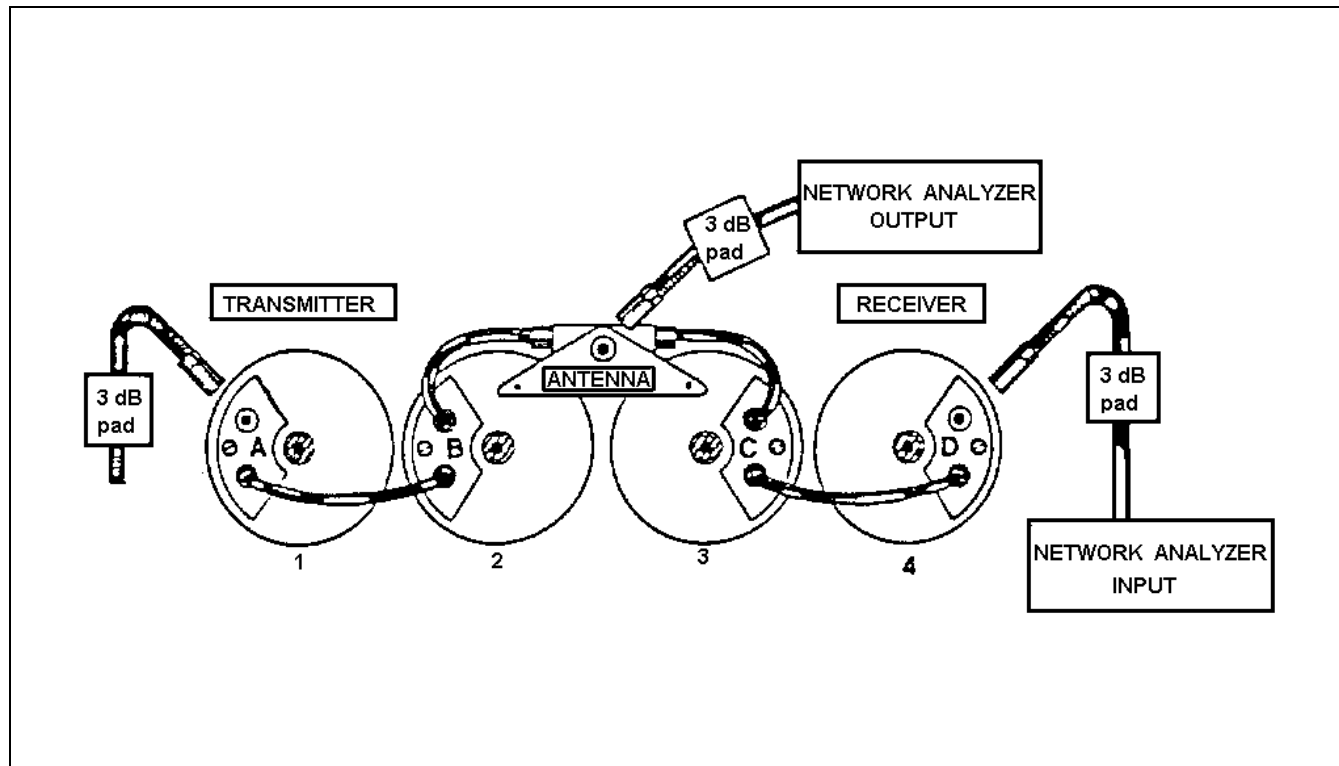

Figure 3
- Leave the output of the network analyzer (or tracking generator) connected to the antenna port. Connect the input of the network analyzer (or spectrum analyzer) to the 50 ohm pad connected to the receiver port. Set the middle screen frequency of the analyzer system to the receive frequency and use a 20 MHz sweep ( $\pm 10$  MHz). (See Figure 3.)